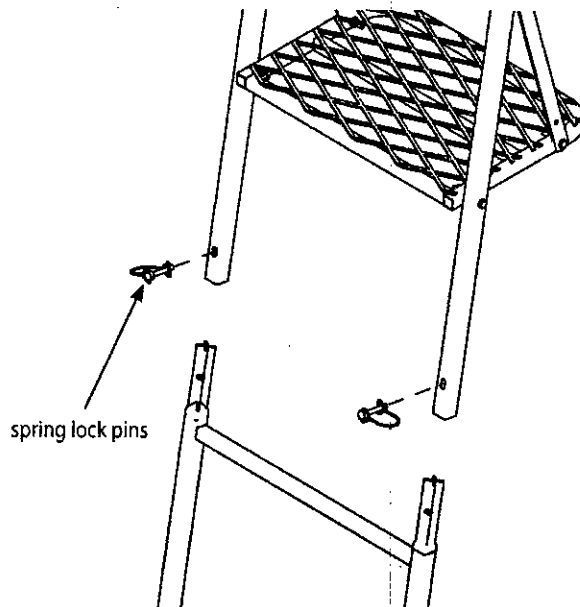

Figure 3
5. With all sections assembled together on ground, secure all sections together using (6) provided spring lock pins. Handle of spring lock pin must be put to the outside of ladder side rails. **SEE FIGURE 3.**